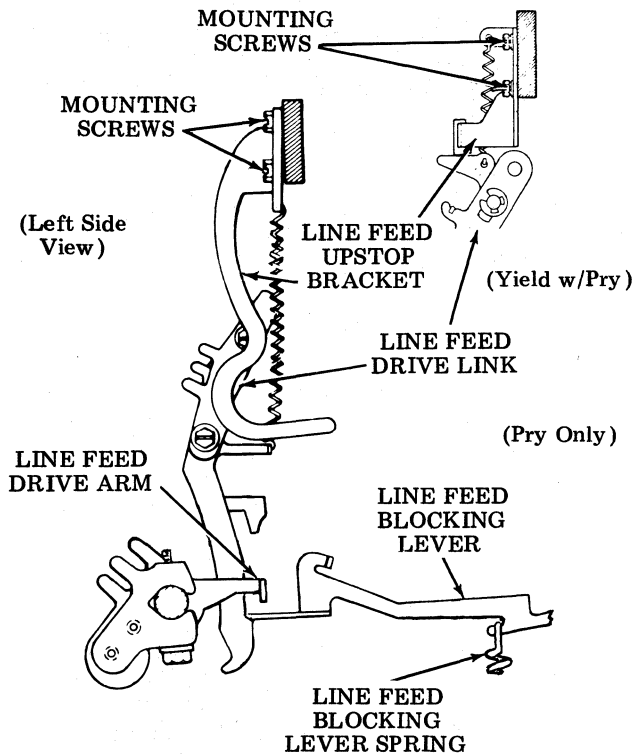

Figure 6 - 184157 Kit for Automatic Line Feed or Carriage Return
2.29 Operation of the line feed mechanism relies upon the operation of the carriage return function lever. The blocking lever included in the kit is carried upward to engage the line feed drive link when the carriage return function lever rises upward during the first part of the cycle (Figure 6). During the middle portion of the cycle, both the carriage return function pawl and the line feed drive link are driven downward to effect carriage return and line feed.